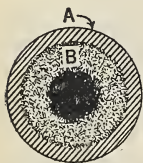

Fig. 22. A, pipe; B, deposit. Notice that the pipe is so clogged that the water pressure is much diminished
68. Requirements of good plumbing. When you build a house that you plan to live in for years, use brass piping. The first cost is somewhat greater, but it will last indefinitely without the necessity of repairs due to the clogging up of the pipes and to leaks (Fig. 22). See that the water pipes are of good size, so that you may be sure of a good